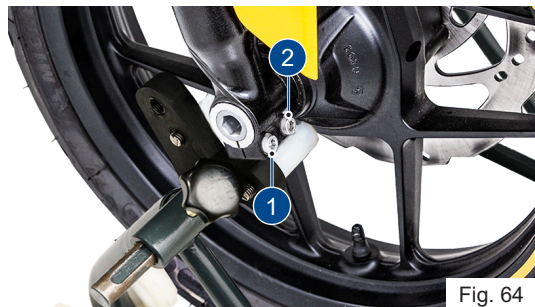

Fig. 64
- Loosen the right side clamping screws (1) and (2) (ref. Fig. 64).
- Install the clamping screws (1, 2, 4 & 5) and tighten to the specified torque (**ref. Fig. 64 & 65**).